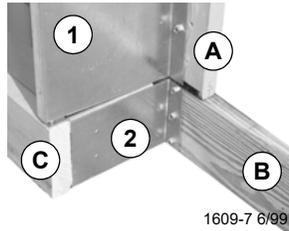

Figure 5. Non-Sump End
4. Reverse the Bottom Bracket at the non-sump end and mount as shown in Figure 5.